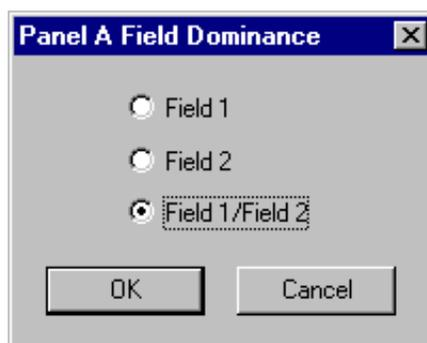

Figure 98. Field Dominance dialog box
1. Choose **Options | Field Dominance**. The Field Dominance dialog box appears (Figure 98).